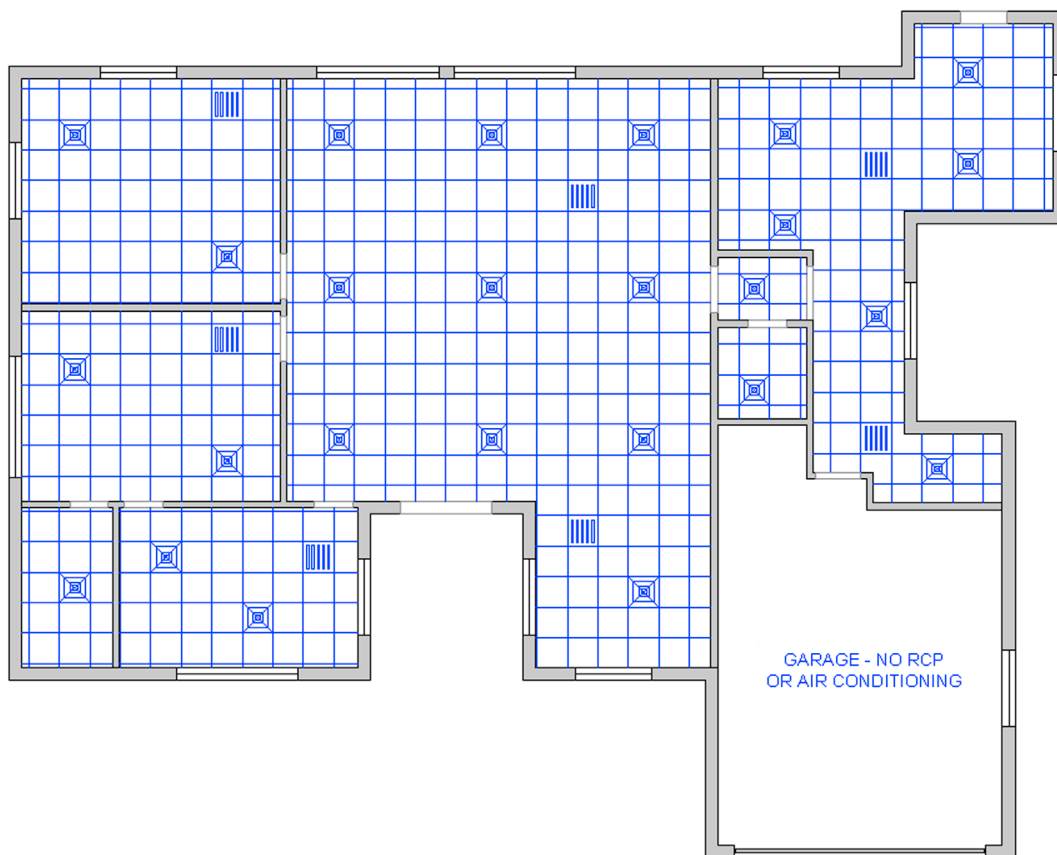

FIGURE 16.17 RCP and HVAC layout.
**Step 4.** Add in the diffuser and return air duct symbols, as shown in the plan (Fig. 16.17).